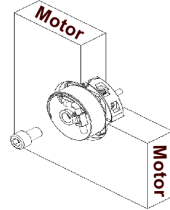

Figure 3-9
- 3) Unscrew the M5\*50 screw counterclockwise for two to three turns. Then, screw the M10\*20 screw clockwise into the center hole of the conical shaft to jack up the M5\*50 screw until the conical shaft leaves the hole, as shown in Figure 3-9.